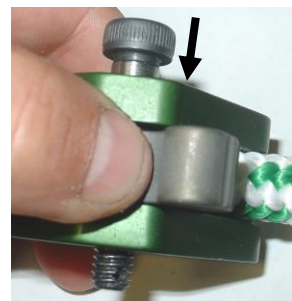

Fig. 8
5. From either side of the body, insert the shoulder bolt completely through the body and the cam lever (Fig.8)